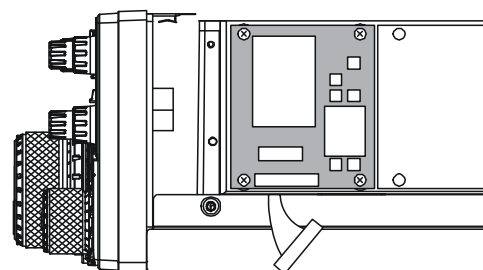

FIGURE 3
4. Mount the SCOPE Unit using the supplied four screws (Figure 3).